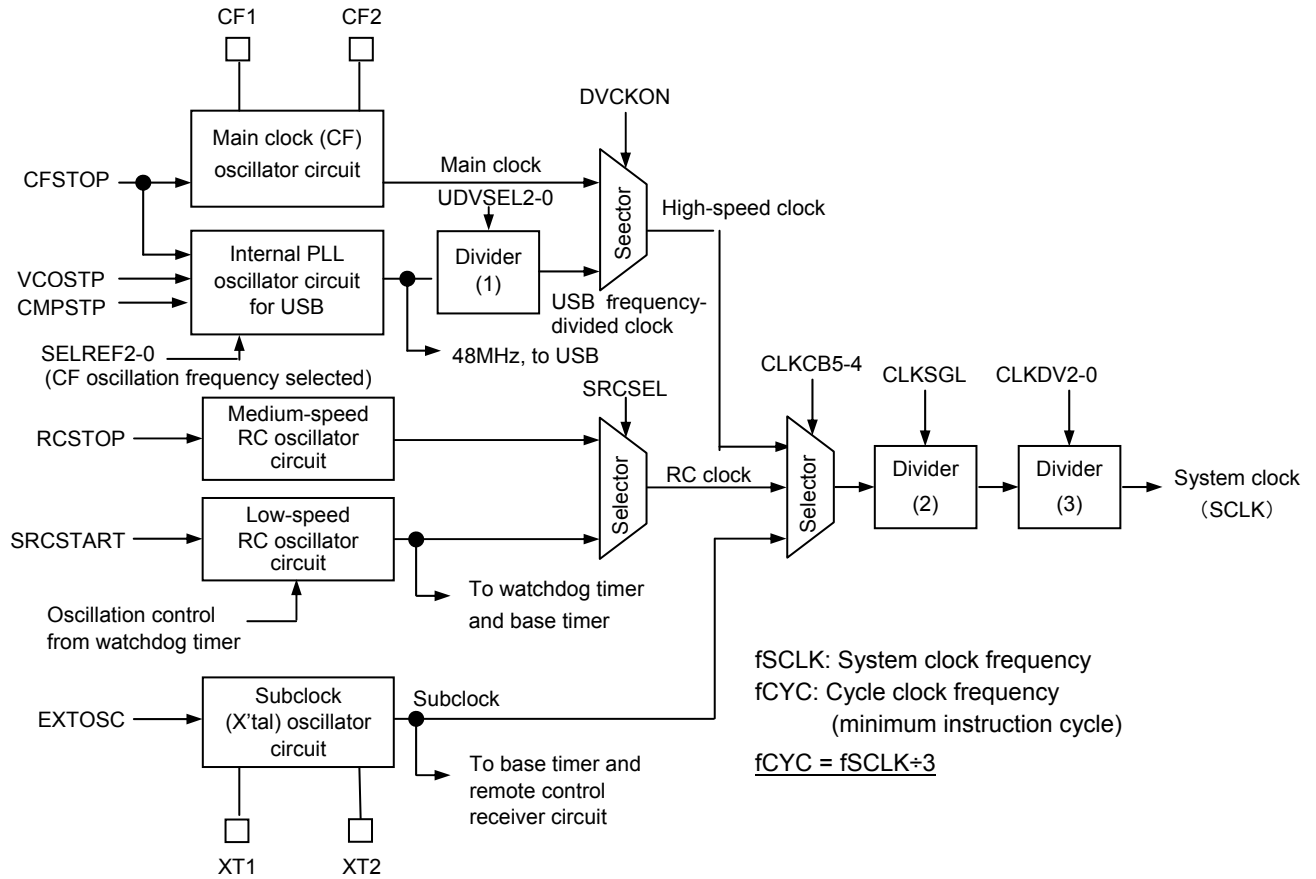

Fig. 4.2.1 System Clock Generator Block Diagram
* See Figure 4.2.1 for details.
* See Figure 4.2.1 for more information.